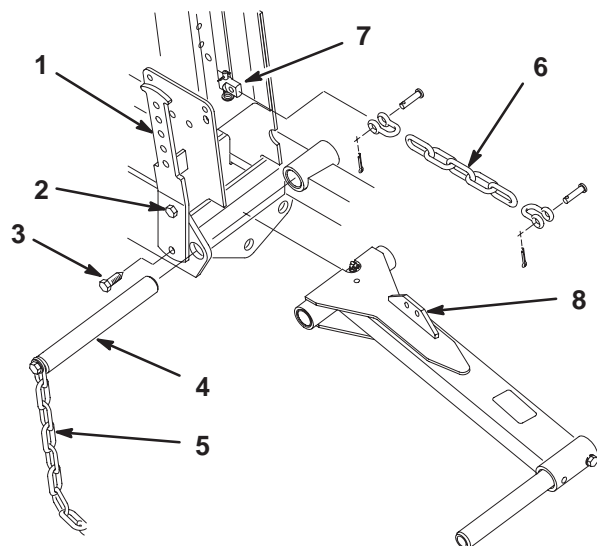

Figure 7
3. Loosen the top capscrew securing the left counterbalance arm to the frame (Fig. 7).
4. Remove the bottom capscrew and nut securing the left counterbalance arm to the frame (Fig. 7).
5. Rotate the counterbalance arm outward, allowing removal of the lift arm pivot pin and tipper chain (Fig. 7).
6. Position the lift arm between the frame members, align the mounting holes, and install the pivot pin (Fig. 7). Insert the pivot pin so that the counterbalance arm fits into the slot in the pin. Do not secure the counterbalance arm at this time.